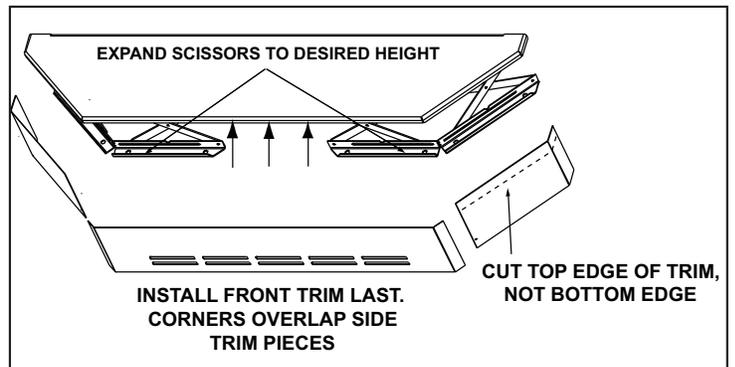

Figure 44.2
2. Expand scissors to desired height. Tighten screws to hold in place using Phillips Head screwdriver. See Figure 44.2.
3. Measure front and side trims to required height to cover scissors and mark pieces for cutting. Cut excess material from top of trim's edge, not bottom. This edge will be sharp; wear gloves to prevent injury to your hands. Figure 44.2.